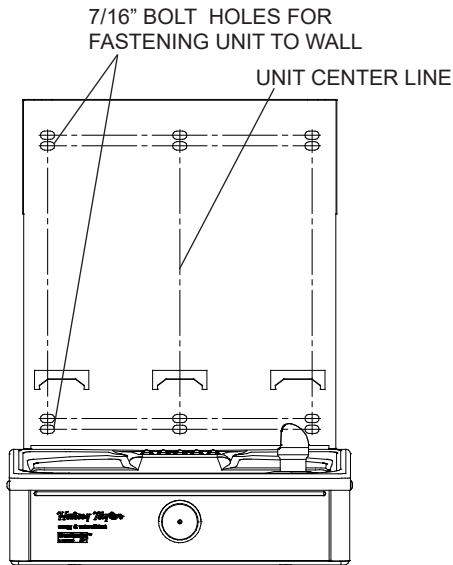

Fig. 8
- 2) **Remove wall mounting plate from Bottle Filler.** Place wall plate against wall on top of basin. Center the wall plate side to side with the basin. Mark the six (6) mounting holes with a pencil (See Fig. 8).
- 4) **Install wall mounting plate to wall** using six (6) 7/16" obround mounting holes (mounting bolts not included) (See Fig. 8). Use appropriate fasteners for your wall type.